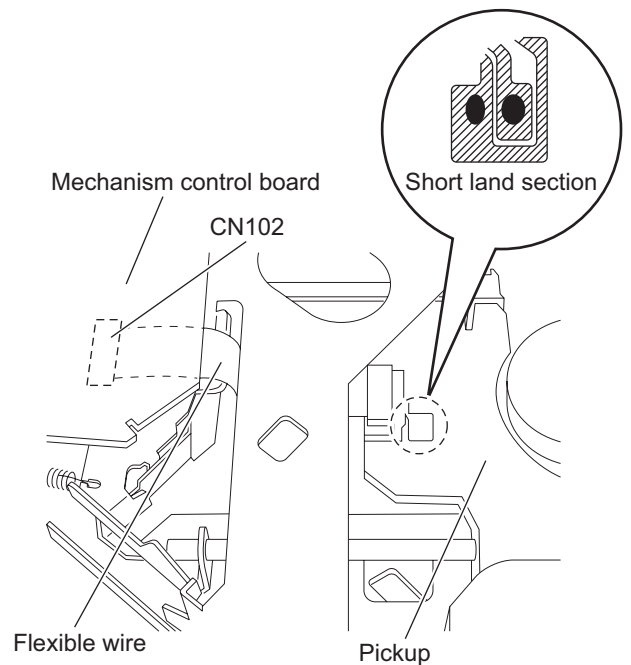

Fig.2
- (3) Solder the short land sections on the pickup. (See Fig.2.)
- Solder the short land sections on the pickup before disconnecting the flexible wire from the connector **CN102** on the MECHANISM CONTROL BOARD assembly. If the card wire is disconnected without attaching solder, the pickup may be destroyed by static electricity. (See Fig.2.)